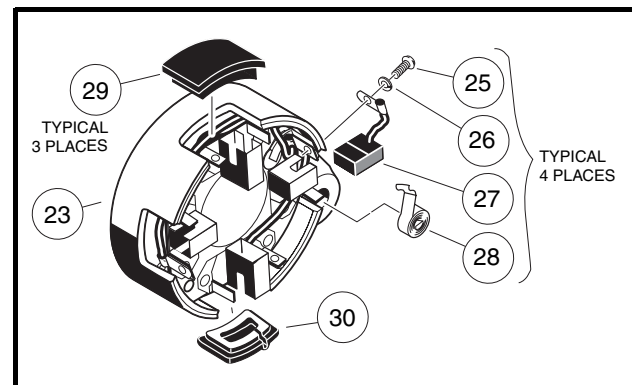
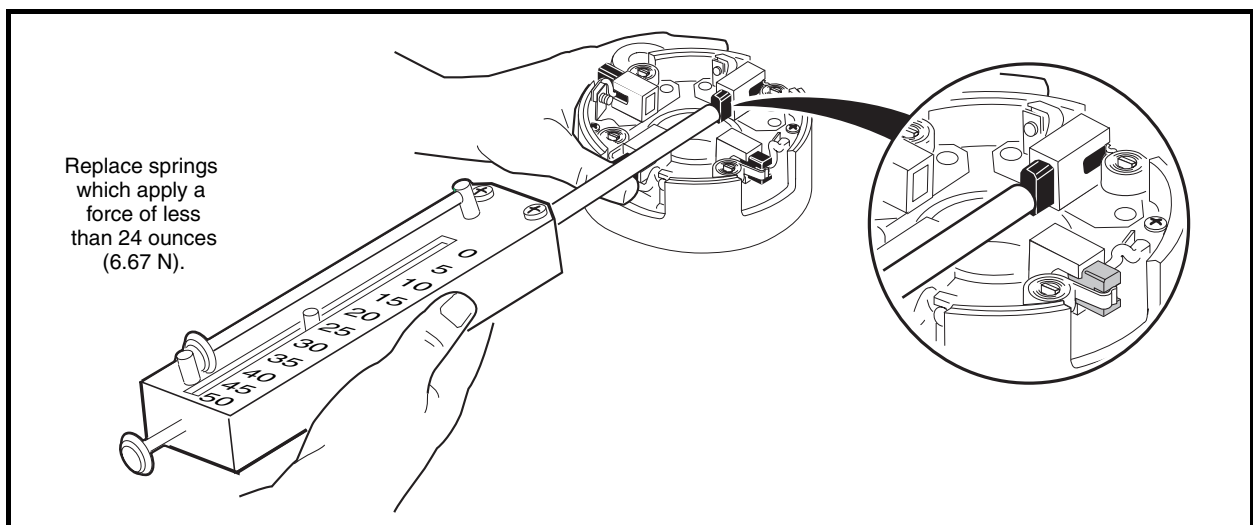

Figure 12-3 Brush Covers and Brushes
Figure 12-5 Brush Spring Tension Test
2. Remove brush covers (29 and 30), screws (25), lockwashers (26), brush springs (28) and brushes (27) (Figure 12-3, Page 12-2). See following NOTE.
2. Install the four brushes (27) into their holders and insert the four brush springs (28) (**Figure 12-3, Page 12-2**). Using a spring scale, test brush spring tension. If any spring has a tension less than 24 ounces (6.67 N), replace all four springs (**Figure 12-5, Page 12-3**). See following CAUTION.
1. Connect the brush wires to the holders using four lockwashers (26) and four screws (25). Make sure the crossover leads are also connected. Tighten the screws to 31 in-lb (3.5 N·m) (**Figure 12-3, Page 12-2**).
4. Push the brushes down into the holders. Place springs into the notches in the brushes. Install the brush cover (30) that has the drain hole in it next to the A2 terminal. Install the remaining three brush covers (29) onto the openings in the commutator end cover (23) (**Figure 12-3, Page 12-2**).
10. Push the brushes down into the holders. Place springs into the notches in the brushes. Install the brush cover (30) that has the drain hole in it next to the A2 terminal. Install the remaining three brush covers (29) onto the openings in the commutator end cover (23) (**Figure 12-3, Page 12-2**).